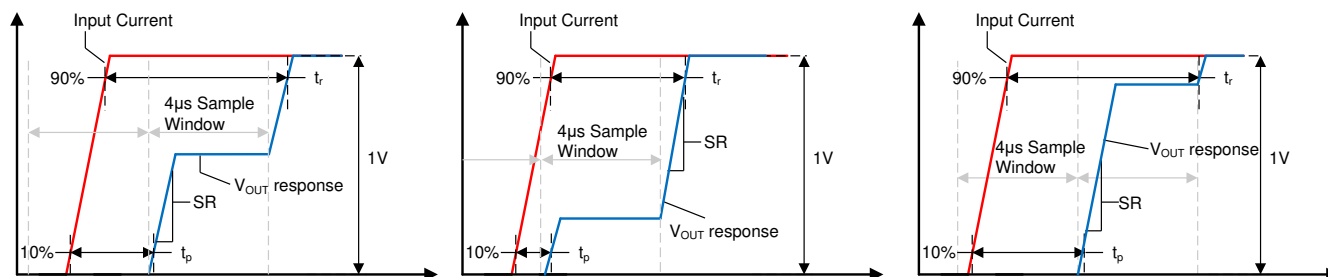

图 8-3. Small Current Input Step Transient Response
Slew rate (SR) is defined as the V_{OUT} rate of change for a single integration step's output transition, as shown in 图 8-3. Because the device often requires two sampling windows to reach a full 90% settling of its final value, this slew rate is not equal to the 10%-90% transition time for the full output swing.
Propagation delay is the time period between the input current waveform reaching 10% of its final value and V_{OUT} reaching 10% of its final value. This propagation delay is heavily dependent upon the alignment of the input current step and the sampling period of the TMCS1107, as shown for several different sampling window cases in 图 8-3.
Response time is the time period between the input current reaching 90% of its final value and the output reaching 90% of its final value, for an input current step sufficient to cause a 1-V transition on the output. 图 8-3 shows the response time of the TMCS1107 under three different time cases. Unless a step input occurs directly during the beginning of one sampling window the response time will include two sampling intervals.